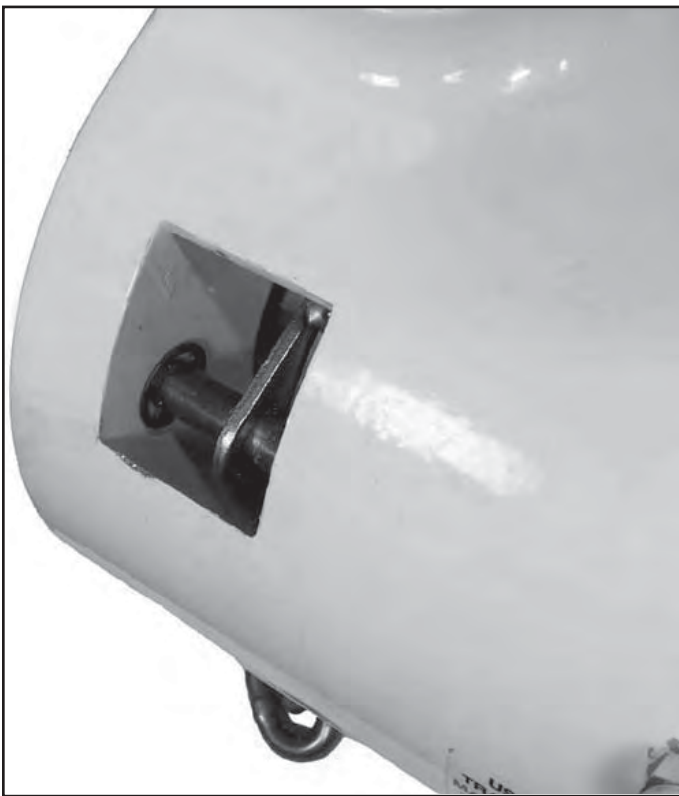

Figure 7-13. Removing Chain Guide Support Pins
(3) Remove "C" clips holding chain guide pins in place. Pull guide pins out from motor side of frame. (Fig 7-13)